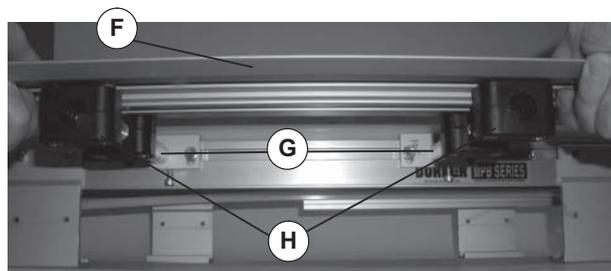

Figure 10
9. Lift table (Figure 10, item F) and slide clamps (H) on to support bars (G).